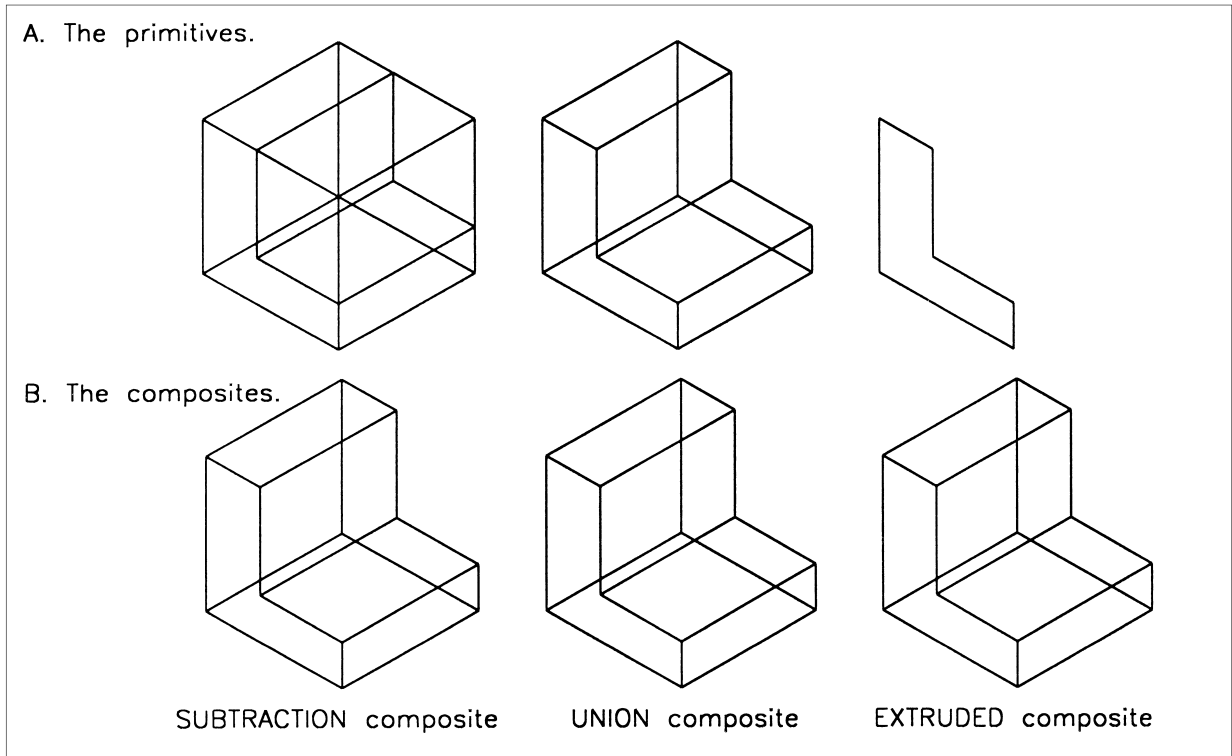

Figure 30.2 Creating the same composite by three different methods.
- 1 Open your A3SOL template file refer to Fig. 30.2 and: